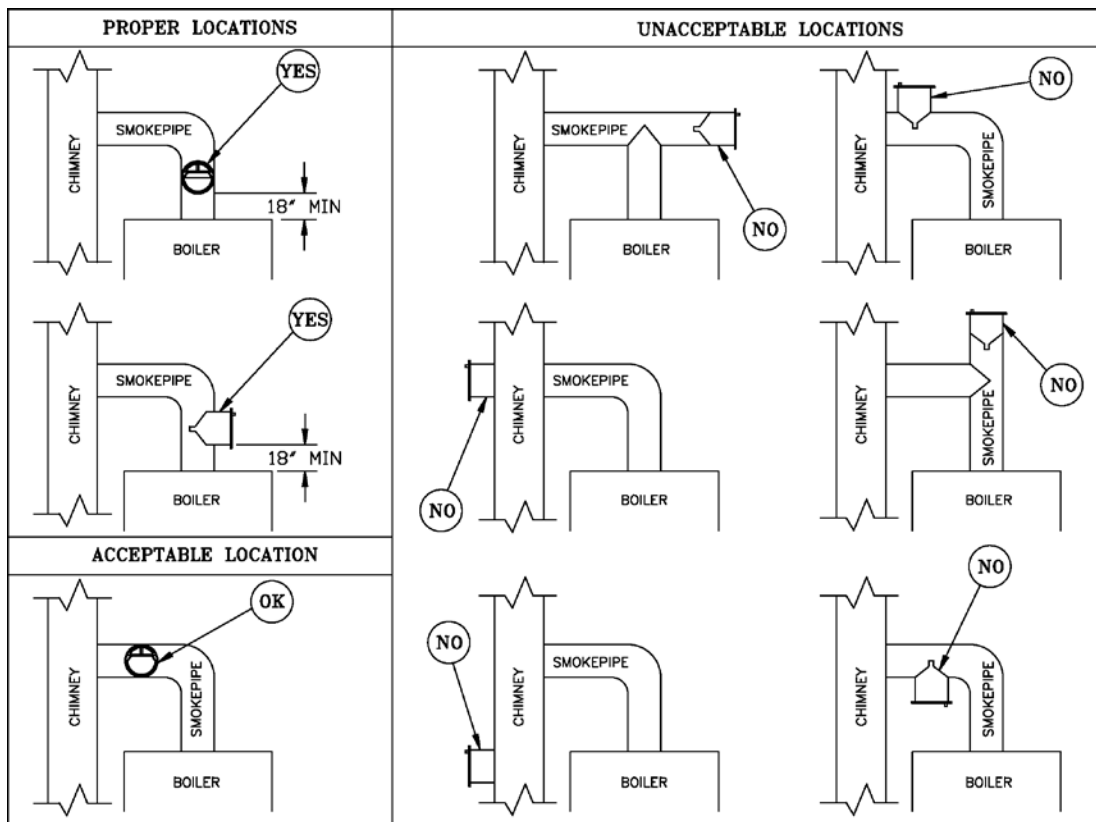

Figure 16: Proper and Improper Locations of Draft Regulator
1. Install a draft regulator (supplied by installer) following the instructions furnished with the regulator. See Figure 16 for draft regulator locations.